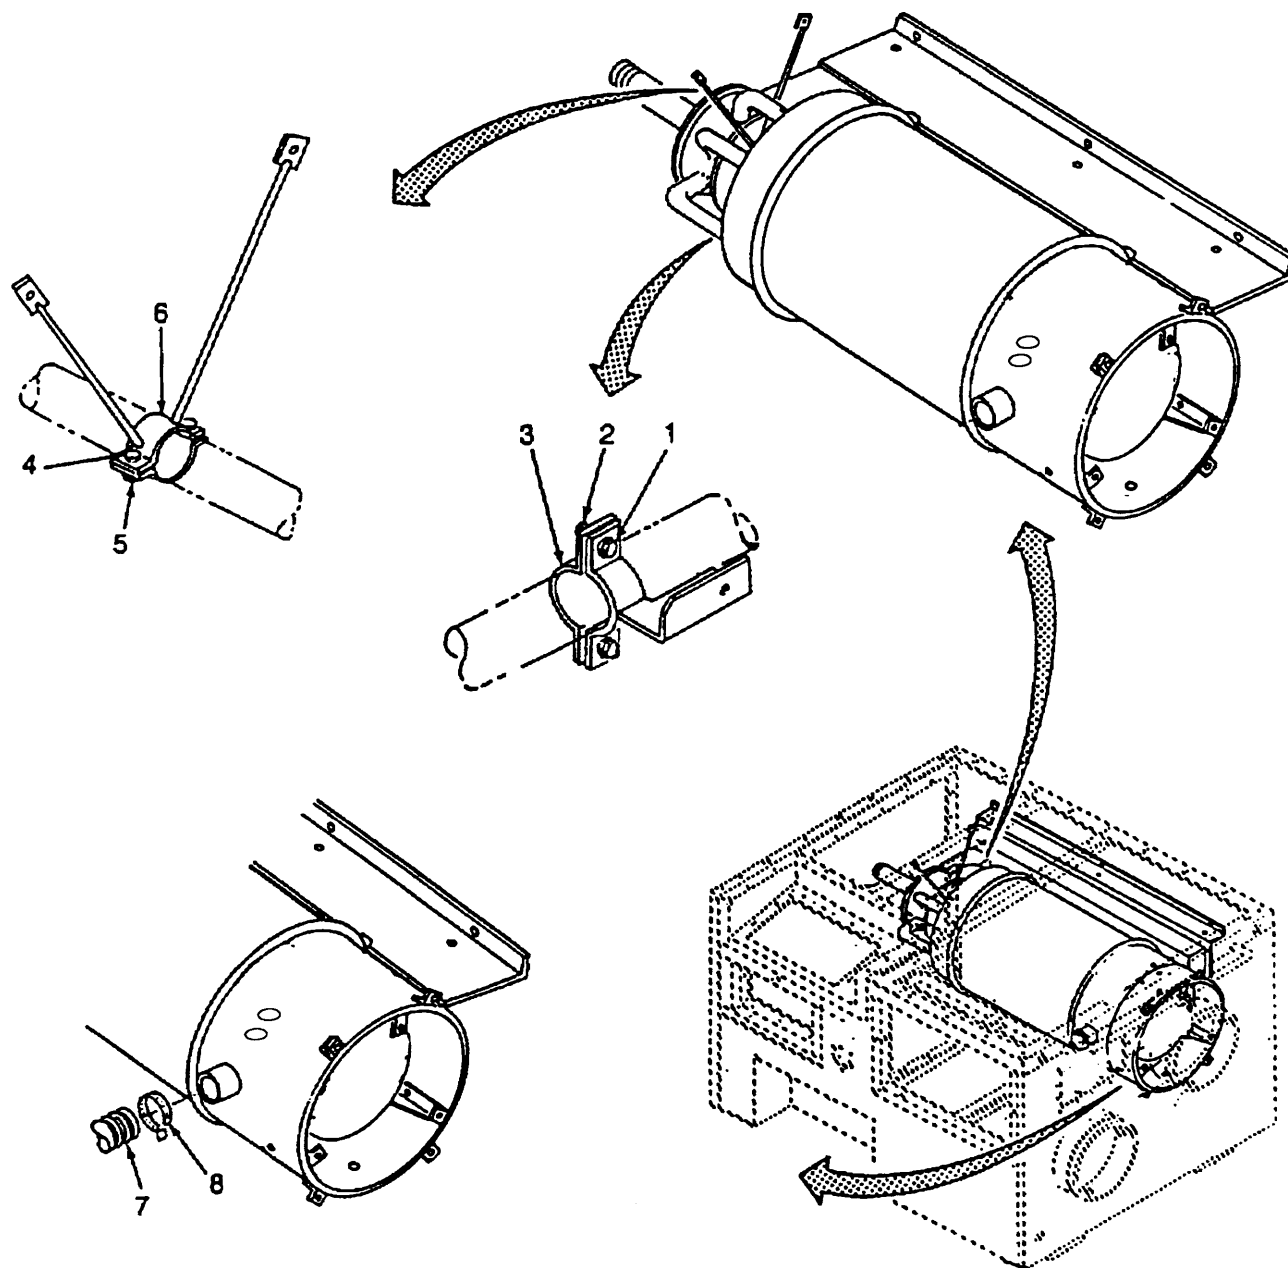

Figure 5-20.1. Heat Exchanger, (Model H120-1) Installation
- f. Installation - continued (Refer to Figure 5-20.1)
- (10) Tighten four screws (1) and four nuts (2) on two clamps (3).
- (11) Tighten two screws (4) and two nuts (5) on clamp (6).
- (12) Connect hose (7) and tighten clamp (8).